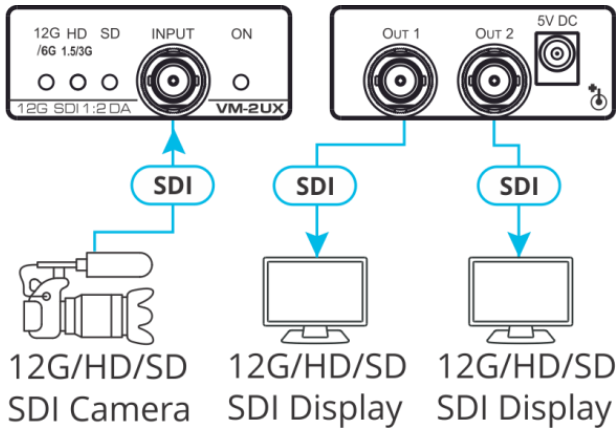

Figure 2: Connecting to the VM-2UX
3. Connect the 5V DC power adapter to the power socket and connect the adapter to the mains electricity (not shown in Figure 2).